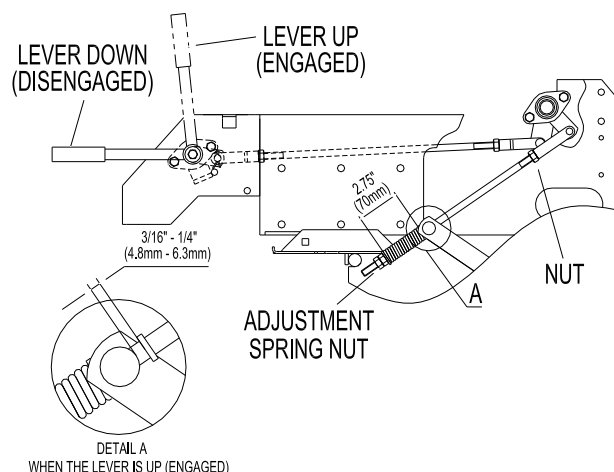

FIG 9
- Measure the length of the spring. Measurement should be 2.75" (70mm) between washers (see Figure 9).
- Measure the distance between the trunnion roller and the rod collar as shown in Figure 9. Measurement should be 3/16" (5mm) with shim gauge.